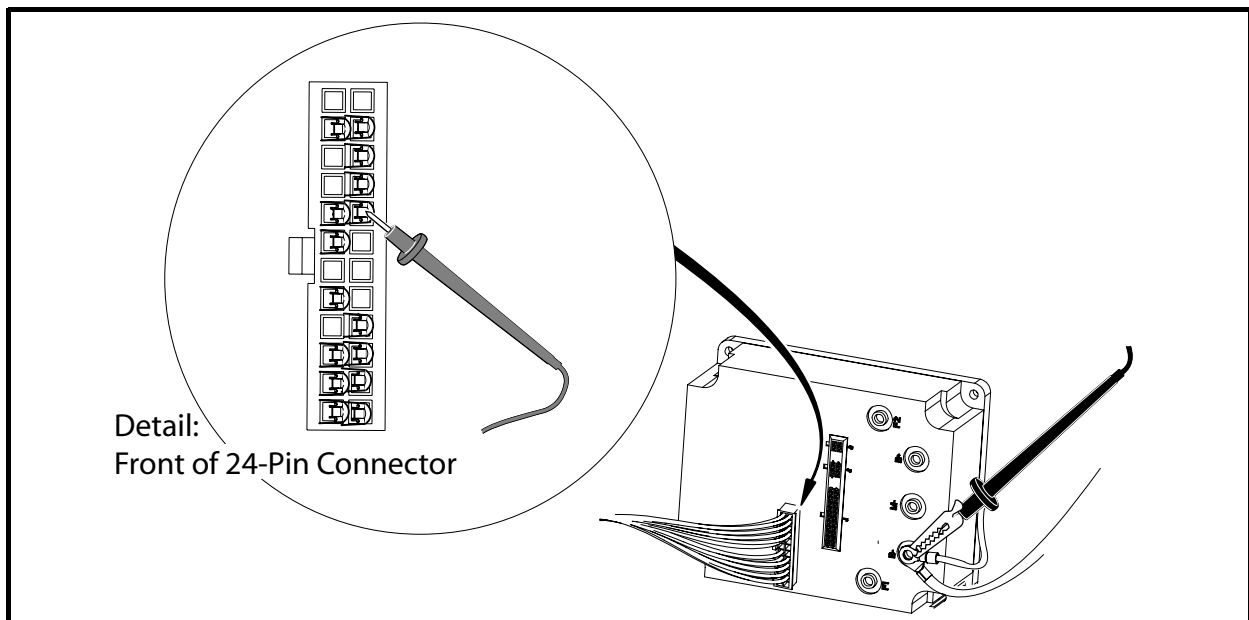

Figure 11-20 Test: Pin 8 (Green Wire)
4. Set a multimeter to 200 volts DC, insert the red (+) probe of the multimeter into pin 8 (green wire) of the 24-pin connector. See following **CAUTION.** Using an alligator clip, connect the black (-) probe to the B-terminal of the speed controller (**Figure 11-20, Page 11-30**).